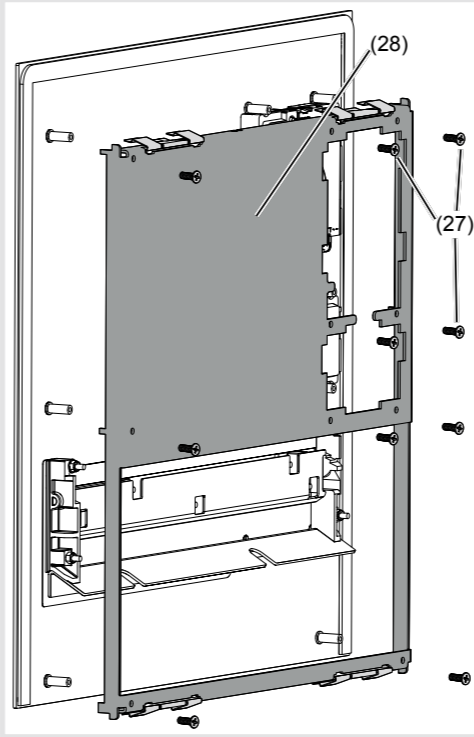

Figure 18: Dismantling module mounting
- Pull off connection terminal block (10) on the audio insert.
- Loosen screws (27) of the module mounting at the back (28) using a screwdriver and remove the module mounting (Figure 18).